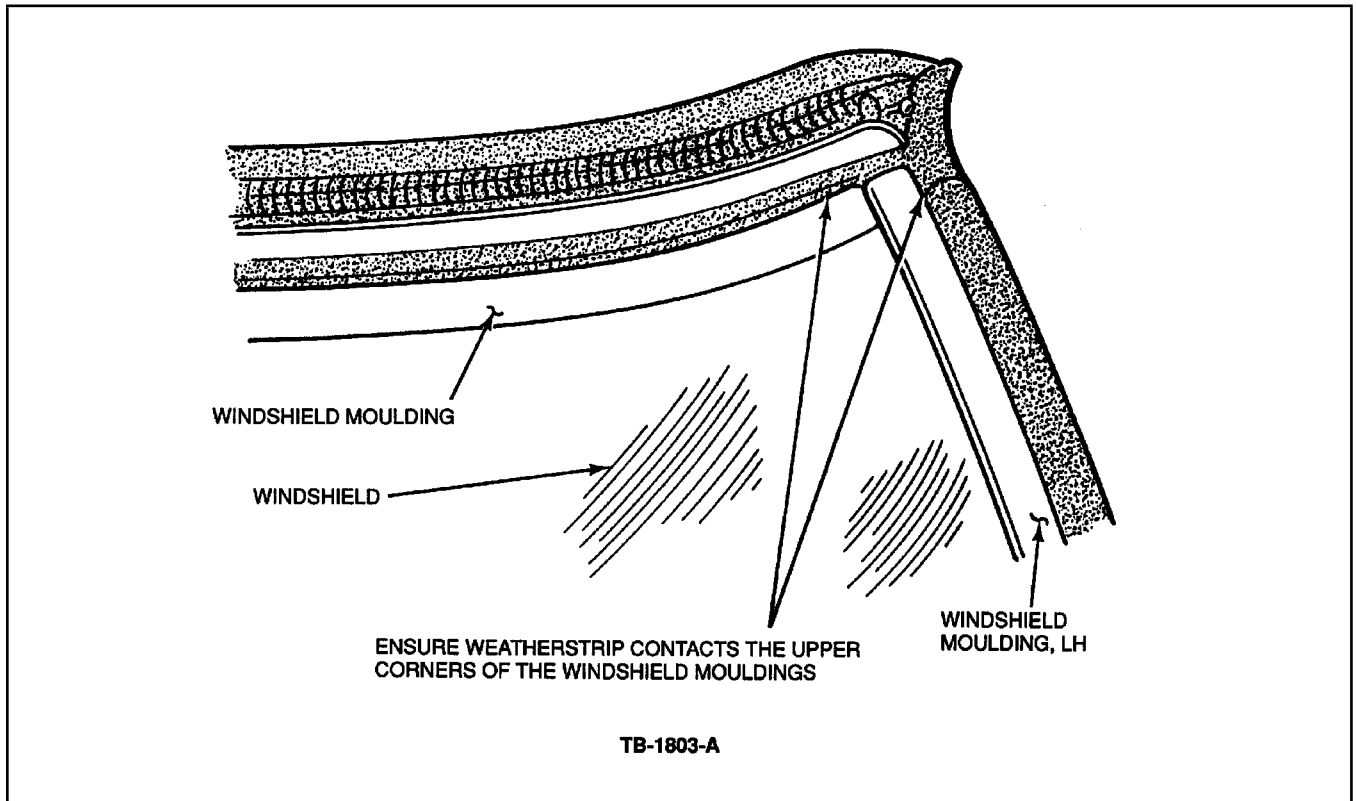

Figure 2 - Article 90-21-3
9. Make sure the weatherstrip contacts the windshield mouldings in the upper corners, Figure 2.